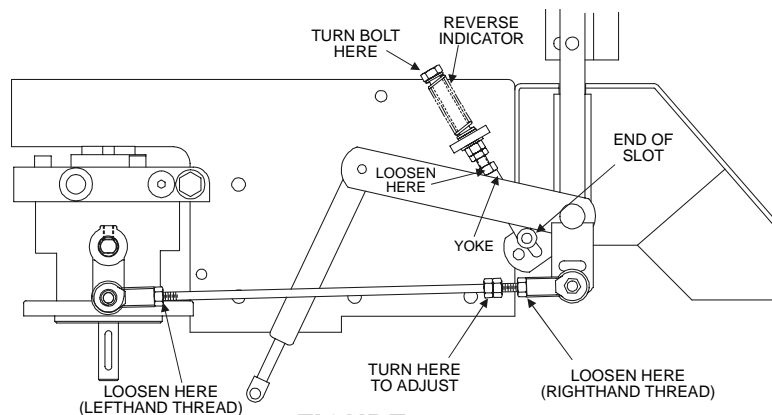

FIGURE 9
- c) Begin with either the left or right motion control lever. Move lever to the neutral position and pull lever back until the clevis pin (on arm below pivot shaft) contacts the end of the slot (just beginning to put pressure on spring), See Figure 9.
- e) Loosen lock nuts from the ball joints at each end of the RH pump control linkage (See Figure 9).
- h) Bring the RH motion control lever into the neutral position. Adjust RH pump control rod length by rotating the double nuts on the rod in the appropriate direction until the wheels slightly creep in reverse. (See Figure 9). Move the motion control lever to the reverse position and while applying slight pressure to the lever, allow the reverse indicator spring to bring the levers back to neutral. The wheel must stop turning or slightly creep in reverse. When adjustment is complete, tighten lock nuts onto ball joints.